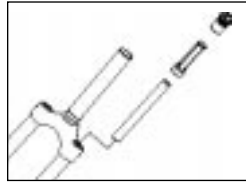

Fig. 3
2. Remove the spring stack assembly (top cap, spacer and elastomer). See Fig. 3.